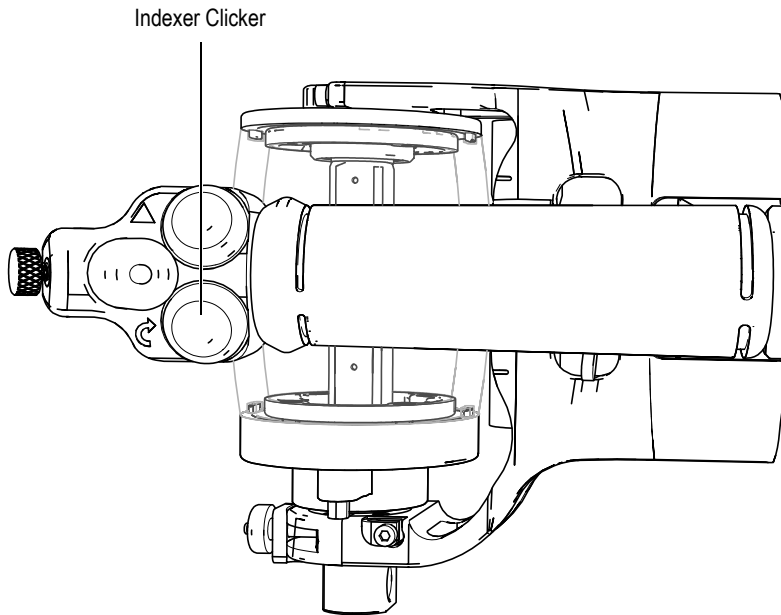

Figure 5-7 Indexer Clicker location
13. Press the Indexer Clicker on top of the RollerFORM's handle (Figure 5-7 on page 76).